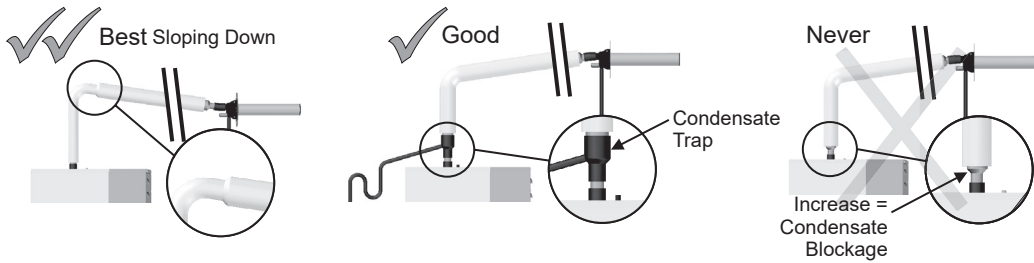

Figure 5: Rules for increasing the steam line diameter.
7. Steam line diameter sizing may be increased for applications with relatively long steam line runs. See the humidifier Installation and Operation Manual for oversizing values and associated maximum steam line runs. Never increase the diameter of the steam line on an upward slope without a properly installed trap. Ideally the line diameter increase should be installed on a downward slope. See Figure 5 for details.